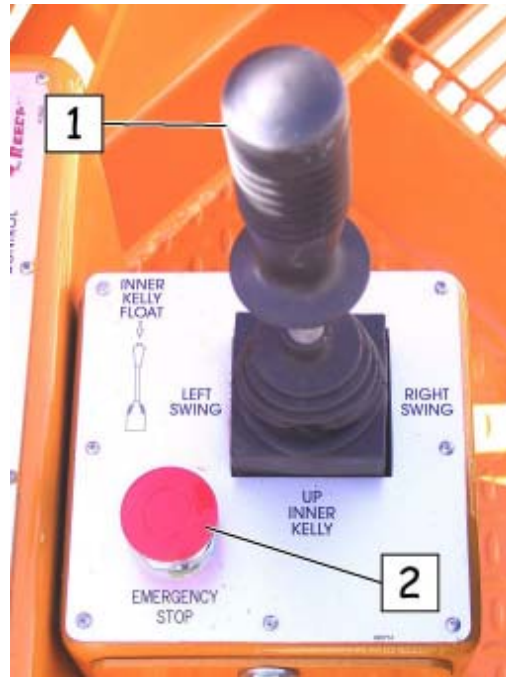

Fig. 4-8 Joystick and Emergency Stop
1. Push joystick (fig. 4-8) forward wind cable onto inner kelly winch.